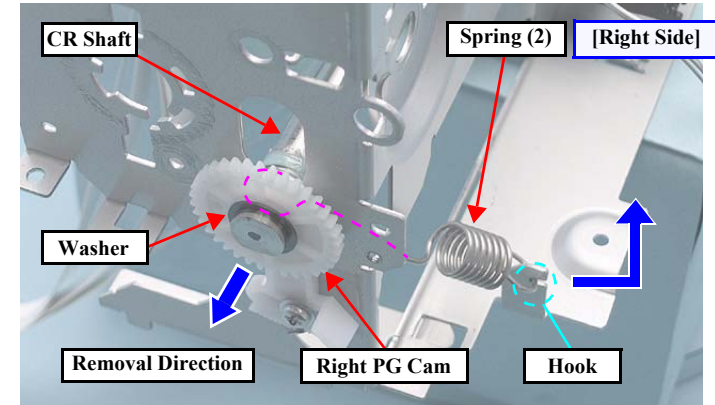

Figure 1-91. Removing the CR unit (2)
- When attaching the spring (2) and the washer for the Right PG Cam to the CR Shaft, make sure to attach them to the positioning slits on the CR Shaft. (See Fig.1-91 \(p.52\))